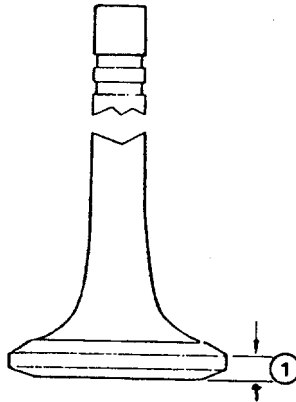

Figure 13-45. Minimum Valve Head Rim Thk.
- (1) Clean valves with buffer and polish with crocus cloth.
- (2) Inspect, then discard if heads are cupped, cracked, pitted, or worn too thin to regrind within limits. Check valve head rim thickness (1, figure 13-45). Discard valve if rim is less than 0.105 inch (2.67 mm).
- (3) Inspect then discard if stem is scored or worn beyond worn limits; new dimensions are 0.450 to 0.451 inch (11.43 to 11.45 mm).
- (4) Inspect then discard if collet recesses are worn so new collets will not fit securely in recesses.
c. Testing. Refer to paragraph 13-27 f (29) for spring testing.